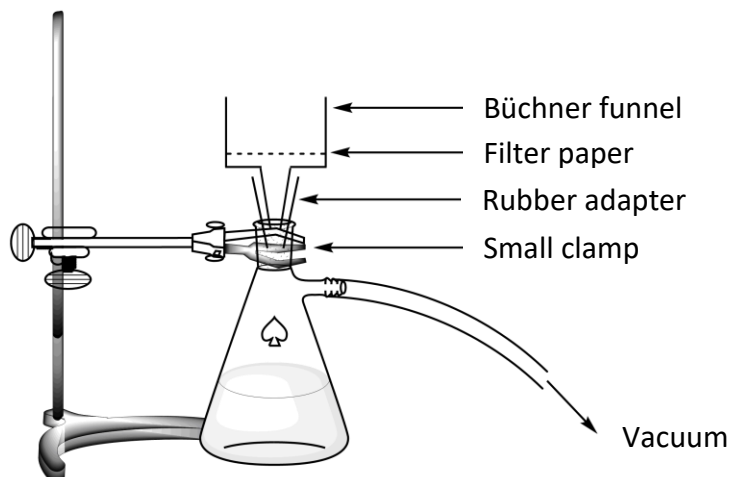

Figure 2. Setup for the vacuum filtration
7. **Set up** a vacuum filtration apparatus (see Figure 2) using a Büchner funnel, a filter paper and a suction flask, that is secured (מחובר טוב) to the laboratory stand with a small clamp. **Raise** your HELP card. A lab assistant will come and show how to connect the suction flask to the vacuum source.